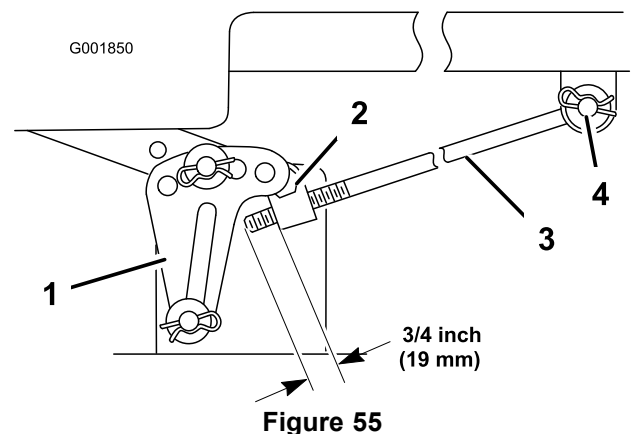

Figure 55
- Measure the length of the rod extending out of the adjusting block on the sides of the chassis (Figure 55).
- If the rod length is **not** a 3/4 inch (19 mm), remove the hairpin cotter and washer from the end of the adjusting rod (Figure 55) and turn the rod until the 3/4 inch (19 mm) dimension is obtained.